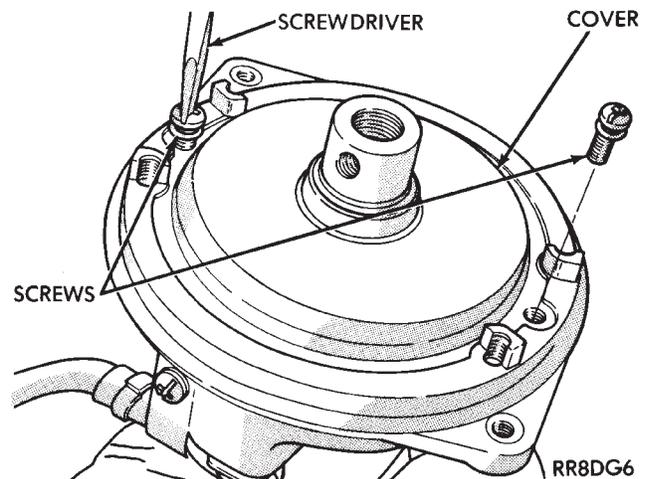

Fig. 25 Protective Cover
(4) Remove protective cover from distributor housing (Fig. 25).